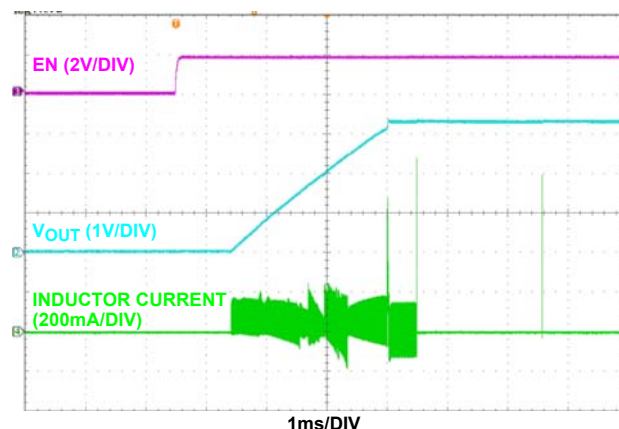

FIGURE 2. ISL91107IR START-UP WITH  $V_{IN} = 2\text{V}$  AND  $V_{OUT} = 3.3\text{V}$
Refer to the "Quick Setup Guide" to configure and power up the board for proper operation. During the power-on process, the expected waveforms are shown in Figures 2 and 3.
7. Monitor the output voltage start-up sequence on the scope. The waveforms will look similar to that shown in Figures 2 and 3.